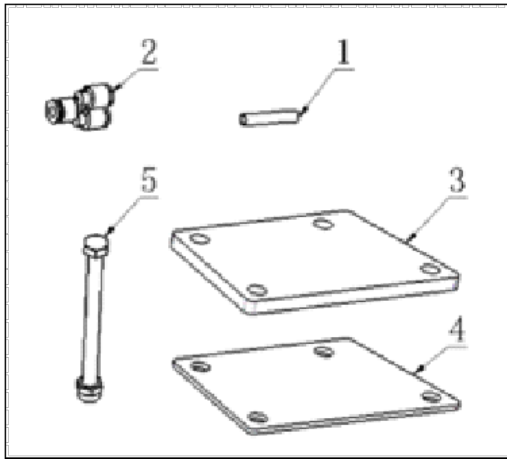

FIG3
4.1.2 open the box and check all the parts according to the “accessory content” and FIG3. Clean them to prepare installation like FIG4 and prepare the needed tools.